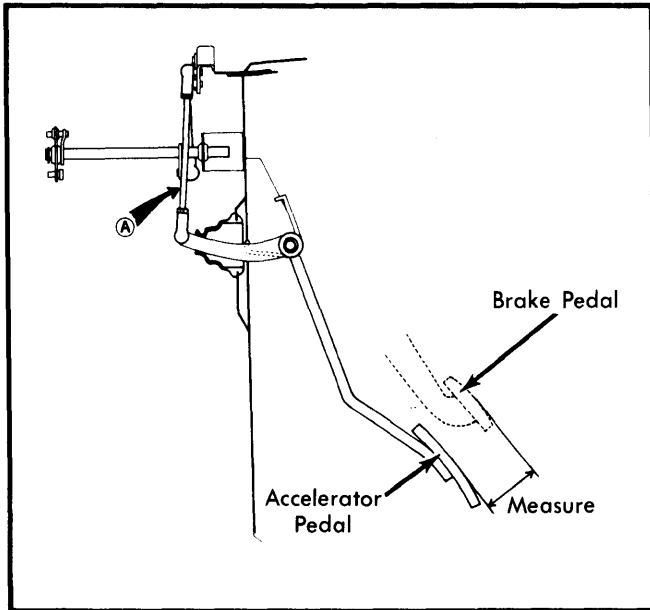

Fig. 9 Accelerator Pedal Height Adjustment
1) To adjust accelerator pedal height, loosen lock nuts on longer linkage rod ("A" in Fig. 9). Rotate rods in sockets until proper accelerator travel from idle to wide-open-throttle is obtained. Tighten lock nuts.